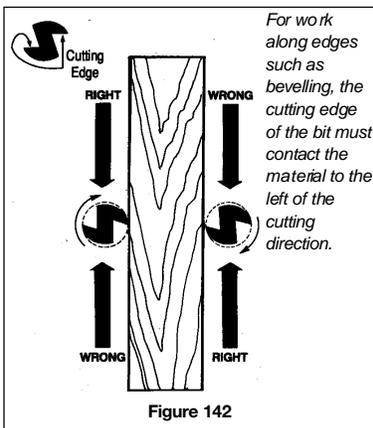

Figure 142
- For work along edges such as bevels and moldings, make sure that the cutting edge of the router bit contacts the material to the **left** of the cutting direction (Figure 142). Otherwise the router will kick back or fly away from you.